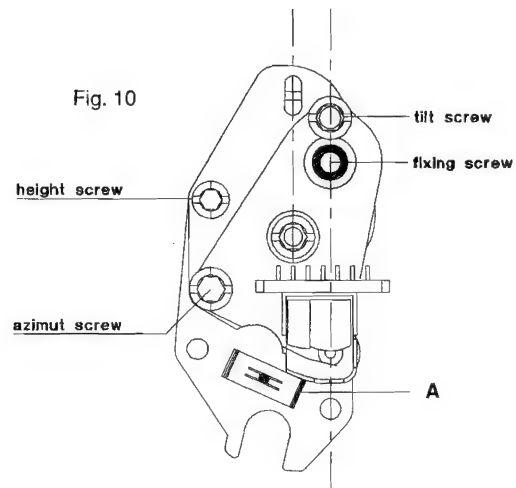

Fig. 10
- Remove fixing spring (A) (Fig. 10).